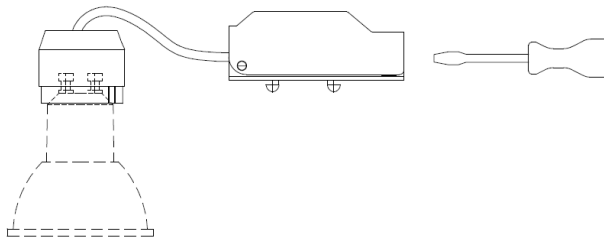

Fig. 2
- Open the terminal cover with the aid of a flat-head screwdriver, see Fig. 2